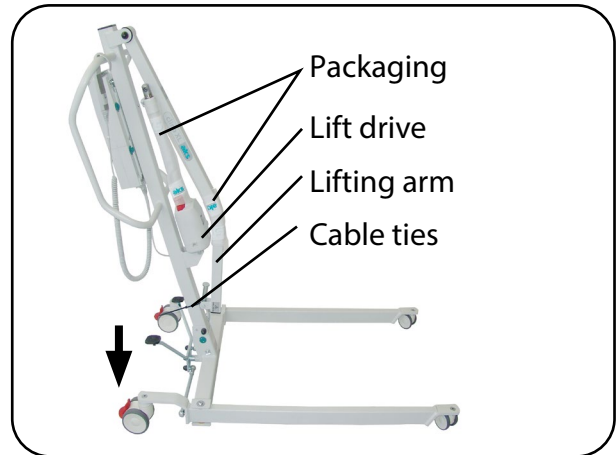

Fig. 13.2.03 – Stand mast set upright rear castors braked
1. Brake the two rear castors on the operator side by activating the foot lever (Fig. 13.2.03) (see chapter on Operation, section **Castors**).
4. Fix the lift drive and lifting arm to the stand mast using cable ties or Velcro strip. If stored for longer periods of time, the lift drive and lifting arm should be wrapped in their original packaging (Fig. 13.2.03) (see chapter on **Storage**).